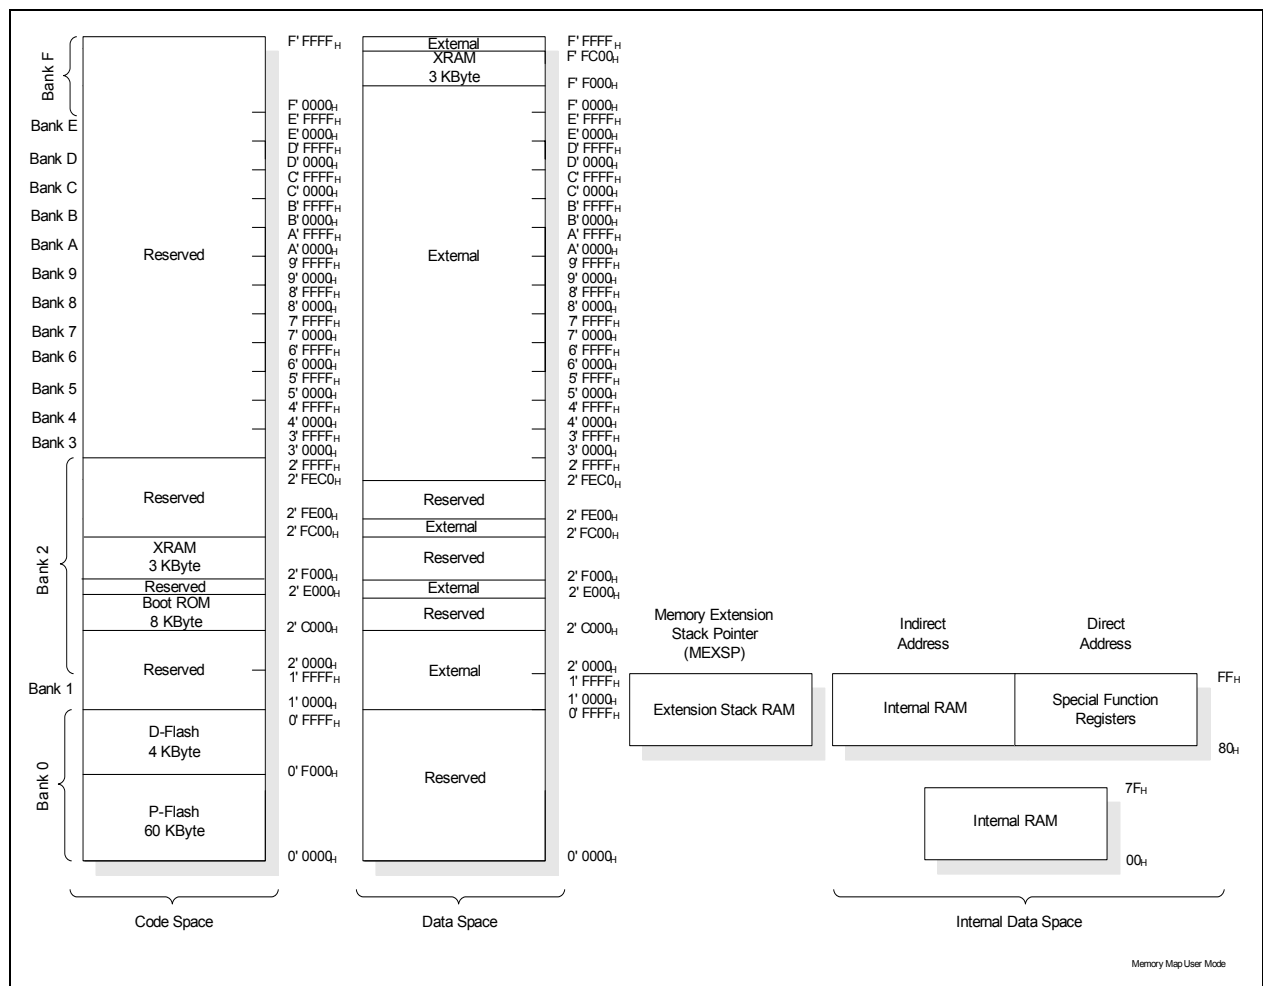
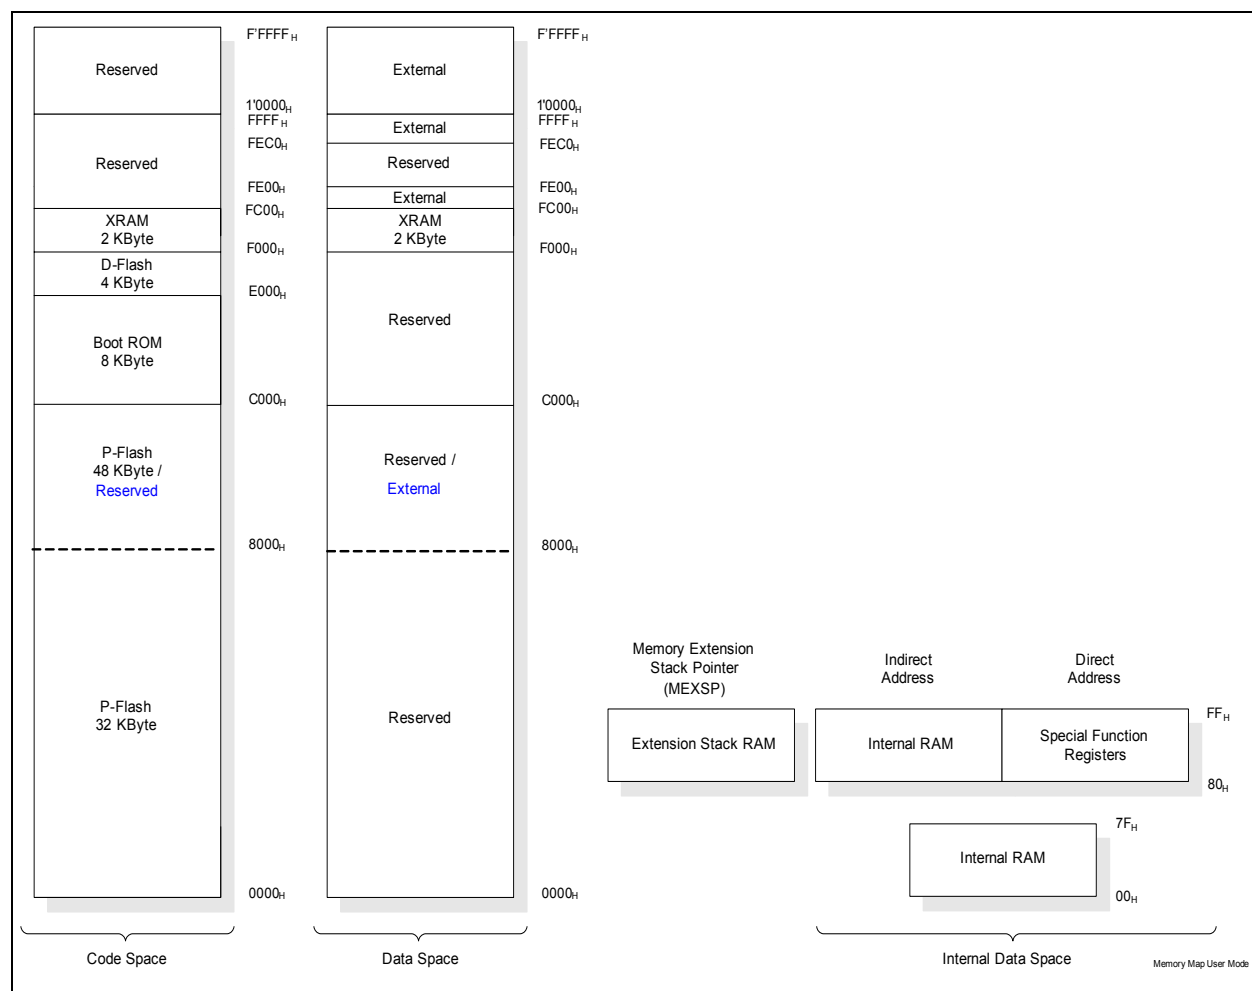

**Figure 7 Memory Map of XC87x with 64K Flash Memory in user mode**
**Figure 8 Memory Map of XC87x with 52K Flash Memory in user mode**
**Figure 7** and **Figure 8** illustrate the memory address spaces of the XC87x with 64Kbytes and 52Kbytes embedded Flash respectively.